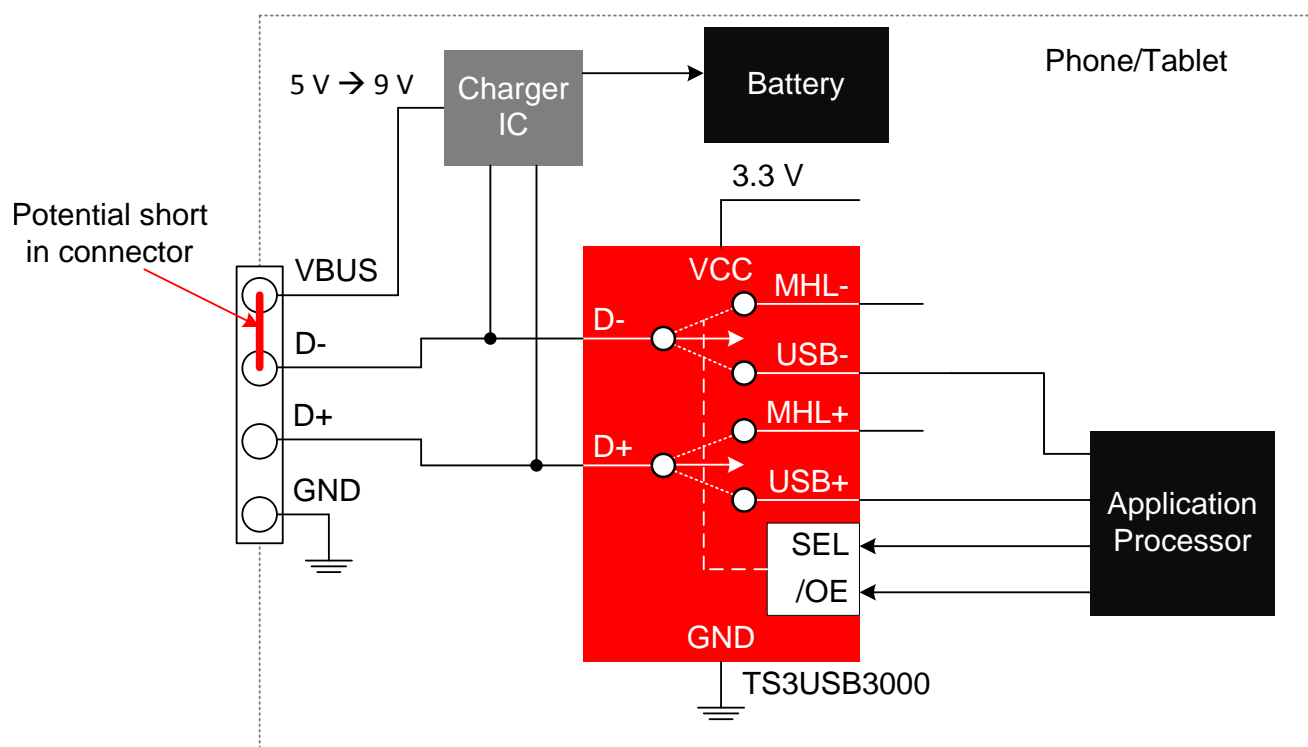

Figure 13. Potential VBUS to D- Short Example
In Figure 13, the system has an application processor (AP) that cannot survive 9-V on the USB data lines. The following procedure protects the system and the TS3USB3000. As stated in the Absolute Maximum Ratings footnotes, the 9-V rating is only applicable while the VCC is powered within the voltage range of the recommended operating conditions and the $\overline{\text{OE}}$ pin is high.